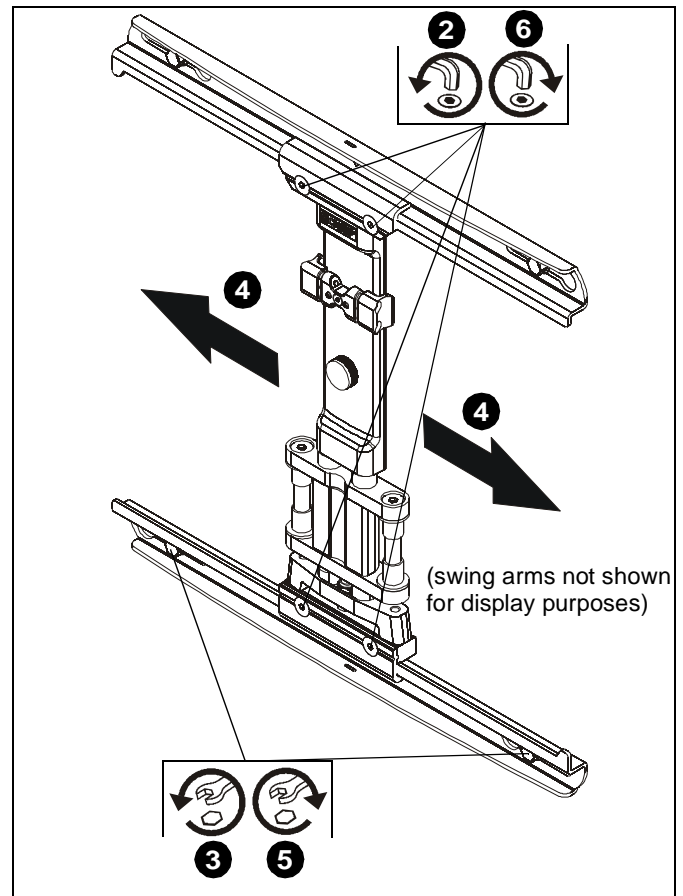

Figure 27
1. Remove wall rail covers (N) to expose lateral shift adjustment screws on wall rails.
2. Loosen four lateral shift adjustment screws. (See Figure 27)
3. Loosen two lower lag screws securing lower rail to the wall. (See Figure 27)
4. Slide mount laterally to desired mounting position. (See Figure 27)
5. Tighten two lower lag screws. (See Figure 27)
6. Tighten four lateral shift adjustment screws. (See Figure 27)
7. Reinstall wall rail covers (N).